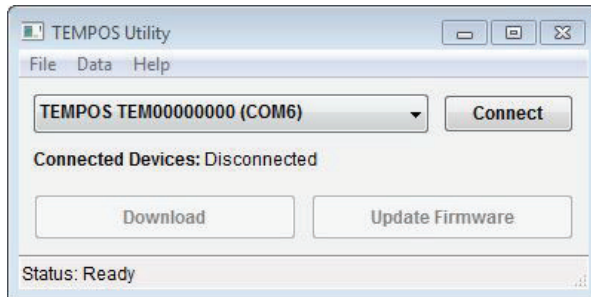

Figure 20 TEMPOS Utility downloader
Once the downloader is installed, TEMPOS Utility will open a new window (Figure 20). The software can now be used to download data from TEMPOS.
2. Once connected, the controller serial number will appear in the TEMPOS Utility dropdown (Figure 20).
5. Press Download to download the data stored on the controller (Figure 20).
- Once connected, the controller serial number will appear in the TEMPOS Utility dropdown (Figure 20).
5. Click the Update Firmware button in the TEMPOS Utility screen (Figure 20).